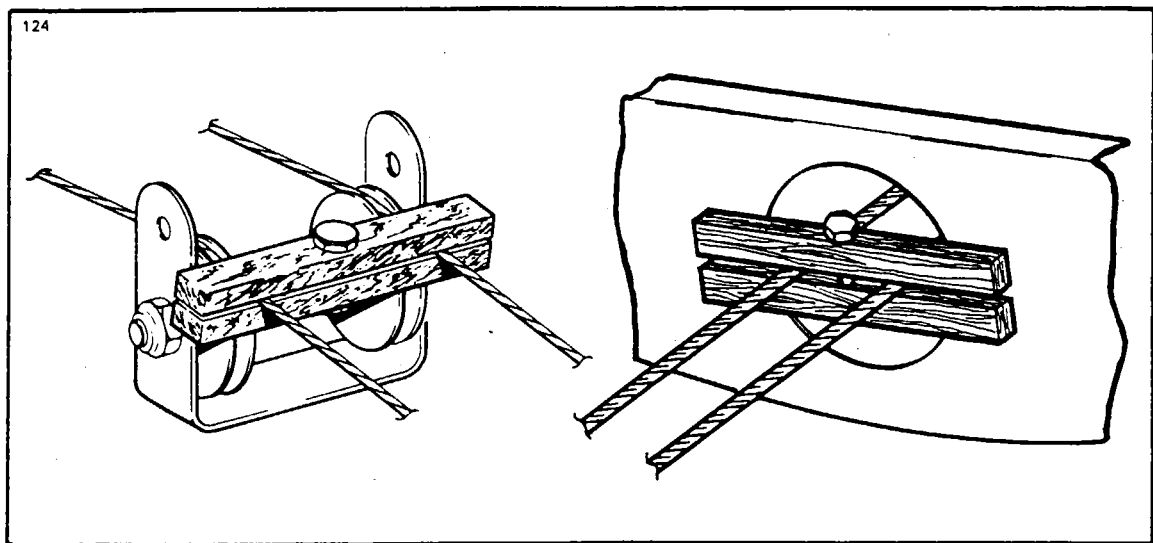

Figure 5-7. Methods of Securing Trim Cables
- b. If the aft trim cable (12) is not to be removed, block the cables at the pulleys (13) in the upper aft section of the fuselage to prevent them from unwrapping from the trim drum. (Refer to Figure 5-7.)
- c. Loosen the cables if the trim control wheel (1) is to be removed or disconnect if the cables are also to be removed. Do this at the trim cable turnbuckles (10 and 11) in the aft section of the fuselage.
- d. The control wheel (1) with drum (3) may be removed by the following procedure:
2. The wheel assembly may be removed from its mounting brackets (4) by removing nut, washer and bolt (8) that secures the wheel between the brackets. Draw the wheel from the brackets. Use caution not to damage trim indicator wire (2).
3. Unwrap the left cable (9) from the drum.
4. The wheel and drum are joined by a push fit, separate these two items with their center bushing and unwrap the right cable (8).
- b. Block the trim cables at the first set of pulleys (35) forward of the cable turnbuckles (10 and 11) in the aft section of the fuselage by a method shown in Figure 5-7.
- c. Disconnect the cable (12) at the turnbuckles (10 and 11) in the aft section of the fuselage.
- e. Disconnect the link (25) between the trim screw (23) and the trim control arm (28) by removing the nut, washer and bolt (24) that connects the link to the screw.
- f. Remove the cotter pin from the top of the screw (23), and turn the screw down and out of the barrel (20).